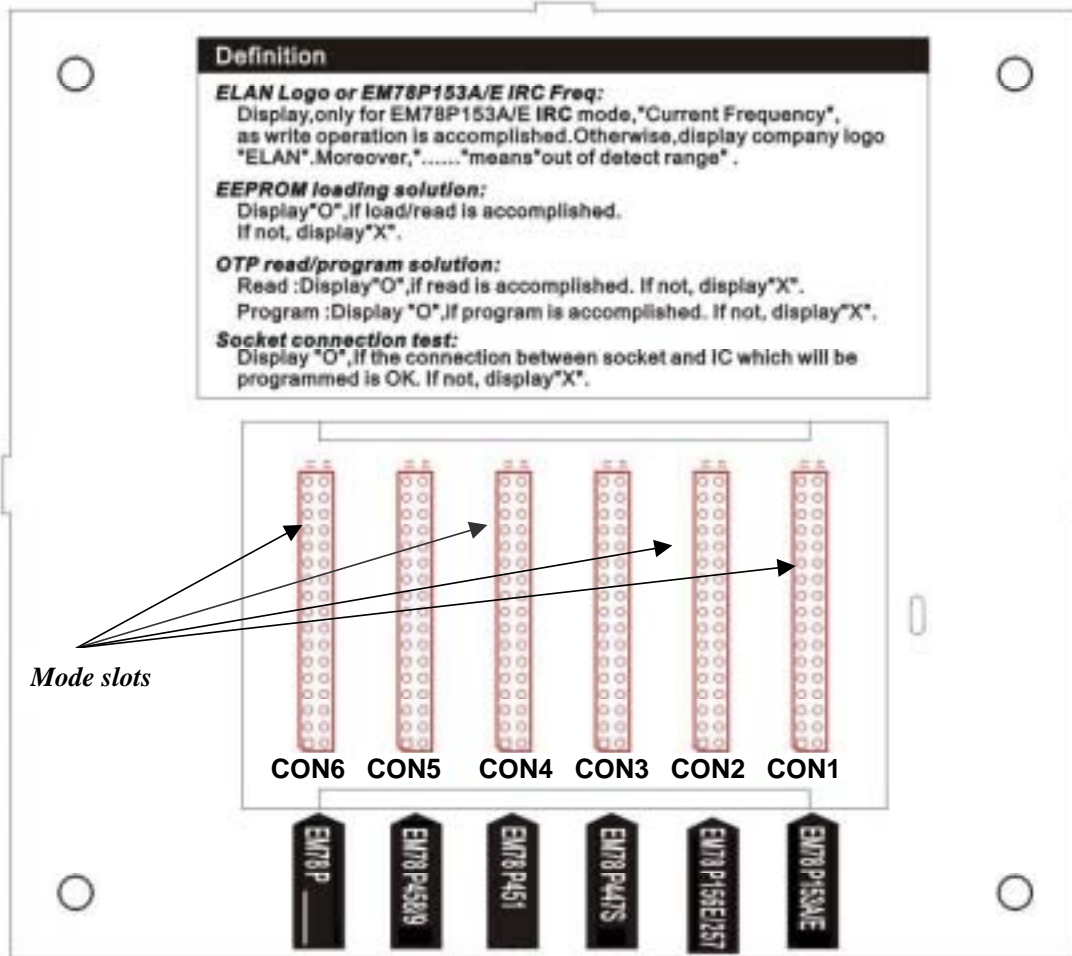

Fig. 1: EM78 DWRITER
- ◆ To short the desired mode slot shown in Fig. 1 with the jumper cap